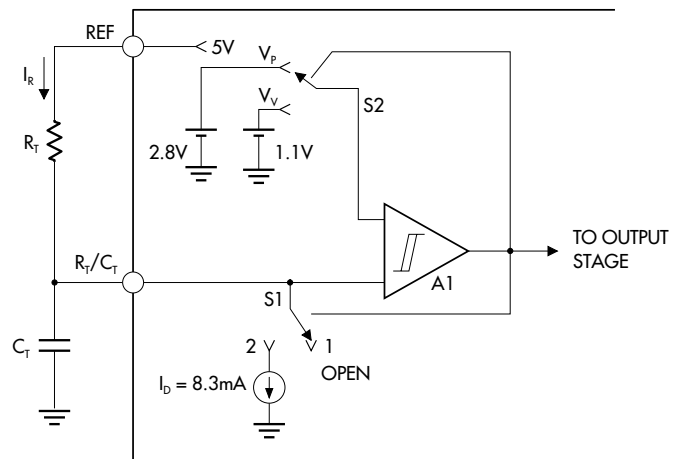

FIGURE 25 — SIMPLIFIED SCHEMATIC OF OSCILLATOR SECTION
The oscillator circuit is designed such that discharge current and valley voltage are trimmed independently. This results in more accurate initial oscillator frequency and maximum output duty cycle, especially important in LX1552/53 applications. The oscillator is programmed by the values selected for the timing components (R_T) and (C_T). A simplified schematic of the oscillator is shown in Figure 25. The operation is as follows; Capacitor (C_T) is charged from the 5V reference thru resistor (R_T) to a peak voltage of 2.7V nominally. Once the voltage reaches this threshold, comparator (A1) changes state, causing (S1) to switch to position (2) and (S2) to (V_V) position. This will allow the capacitor to discharge with a current equal to the difference between a constant discharge current (I_D) and current through charging resistor (I_R), until the voltage drops down to 1V nominally and the comparator changes state again, repeating the cycle. Oscillator charge time results in the output to be in a high state (on time) and discharge time sets it to a low state (off time). Since the oscillator period is the sum of the charge and discharge time, any variations in either of them will ultimately affect stability of the output frequency and the maximum duty cycle. In fact, this